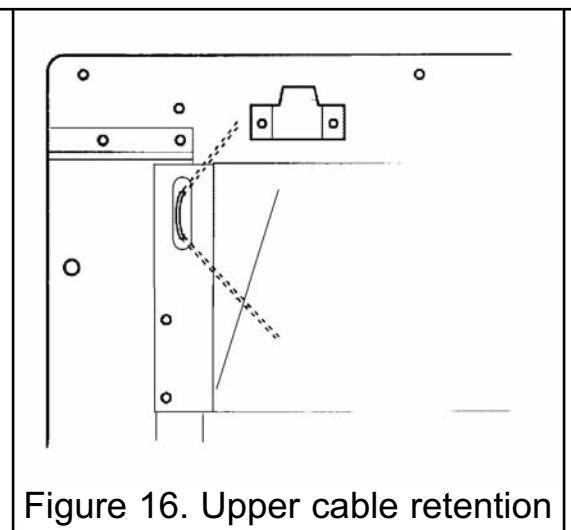

Figure 16. Upper cable retention
**4.** The hotbox has two holes at each side of the spillage plate. Insert one end of each cable (one cable each side) from the back through the lower of the two holes and return the end through the upper of the holes (See figure 16). Give the cables a pull so that they grip against the hotbox flanges.